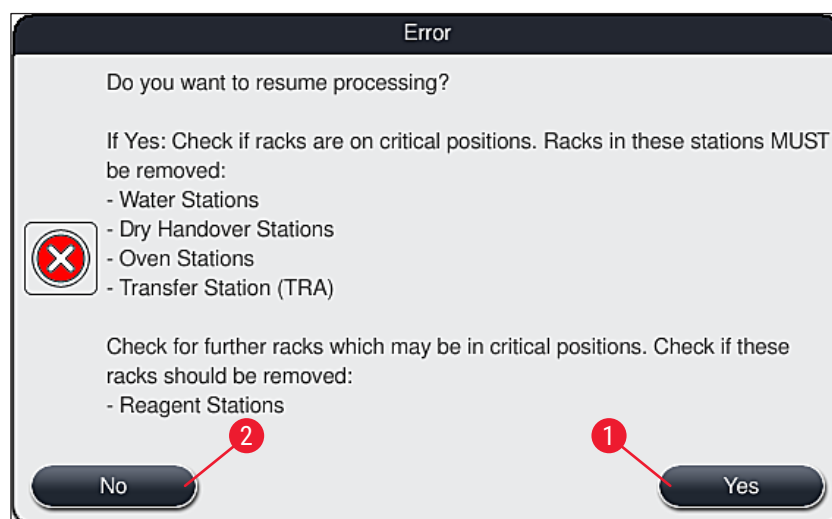

Fig. 110
4. Following this, the user has the option of selecting whether or not the staining process is to be resumed (→ P. 132 – 8.2.2 Resuming the staining process after a power failure) or canceled (→ P. 133 – 8.2.3 Canceling all staining processes after a power failure)(→ "Fig. 110").
2. Remove the critical racks from the instrument in accordance with the previous information message (→ "Fig. 110") and confirm the removal by pressing the corresponding station (→ "Fig. 111-1") on the screen.
The cancellation of the staining process and the return to the previous selection menu (→ "Fig. 110") can be undone by pressing the **Cancel** button (→ "Fig. 112-2").